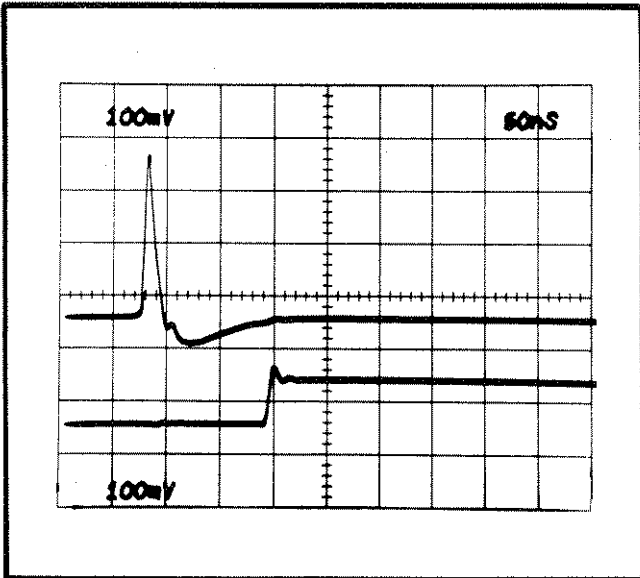

Fig. 5-8. Display to adjust Duration Trigger Level (R30).
c. Adjust R30 fully clockwise, then slowly counterclockwise, until a stable rising portion of the Duration circuit output signal appears on channel 2. See Fig. 5-8.